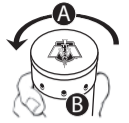

Fig. 1 - Unscrew End Caps
1. Unscrew endcaps **A** and remove contents from body **B** (Fig. 1).